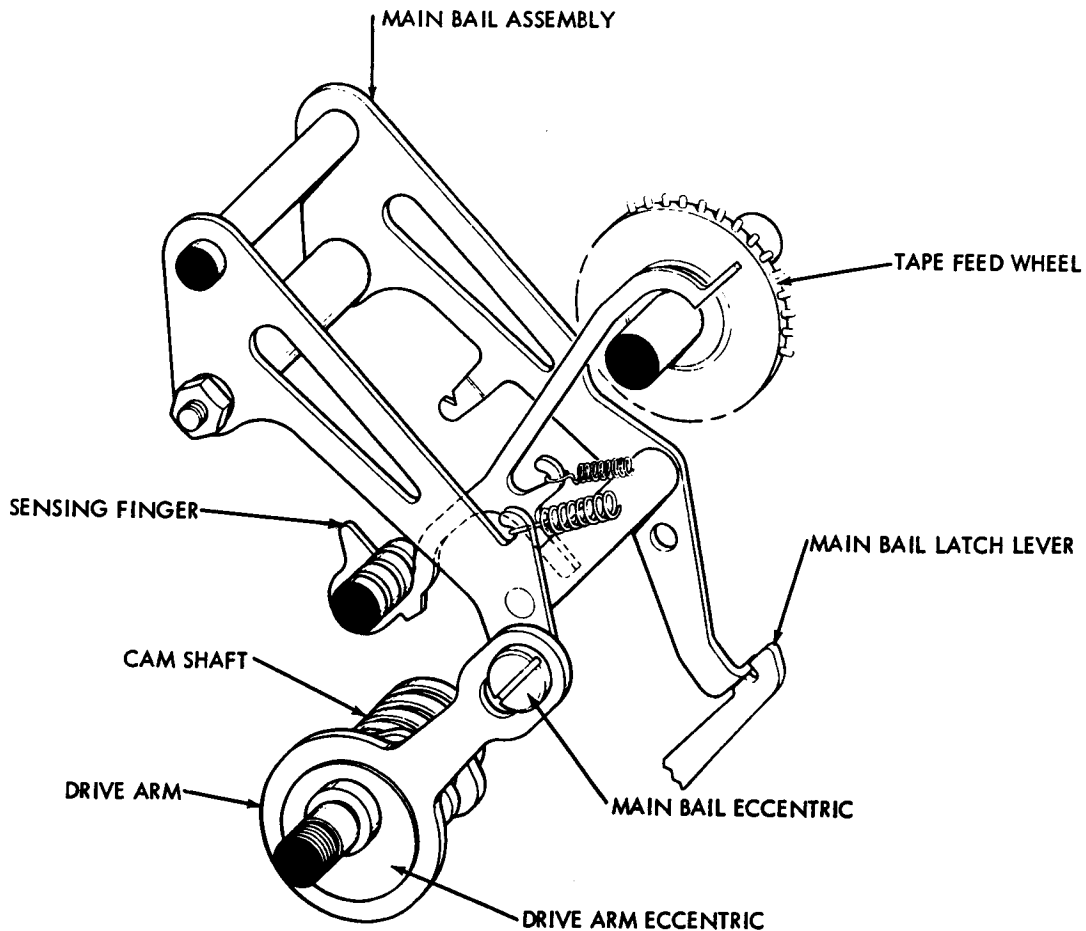

Figure 4-10. Main Bail and Drive Arm Mechanism
(2) As the shaft rotates, the drive arm eccentric (figure 4-10) revolves to pull the drive arm downward, causing the main bail to pivot back to its home position. So long as the magnet circuit is not interrupted, the armature continues to hold the main bail latch lever away from the main bail. As the shaft continues to rotate, the drive arm is moved